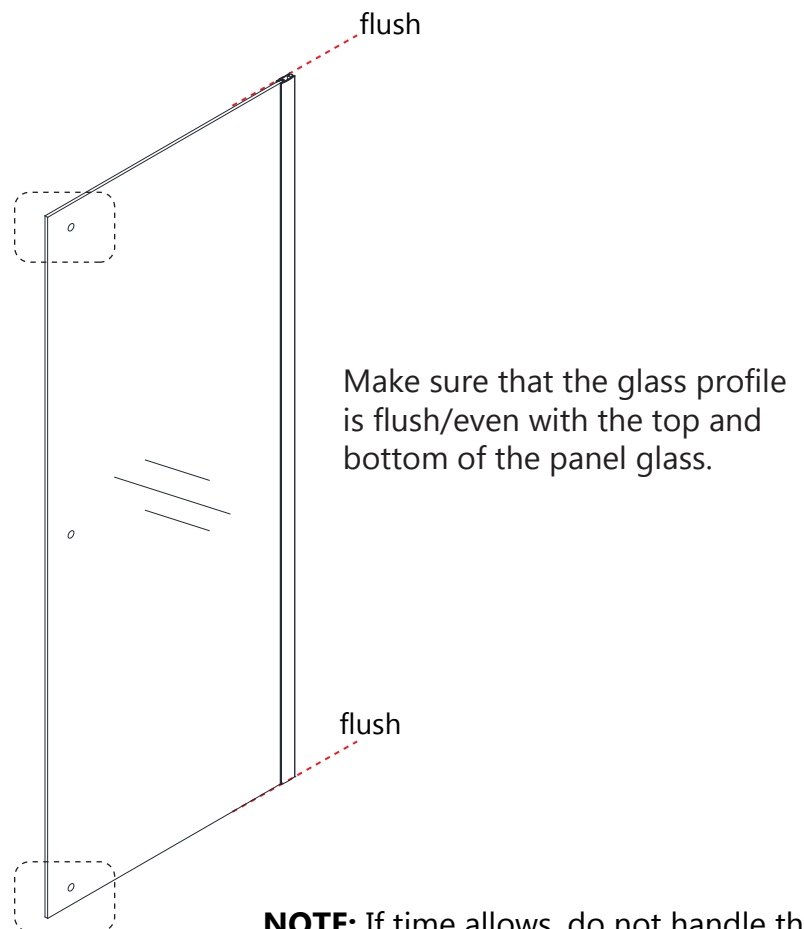

Fig 1b
***NOTE:** The holes (for the pivot bar) should be on the opposite edge from the glass profile. (**Fig 1b**)